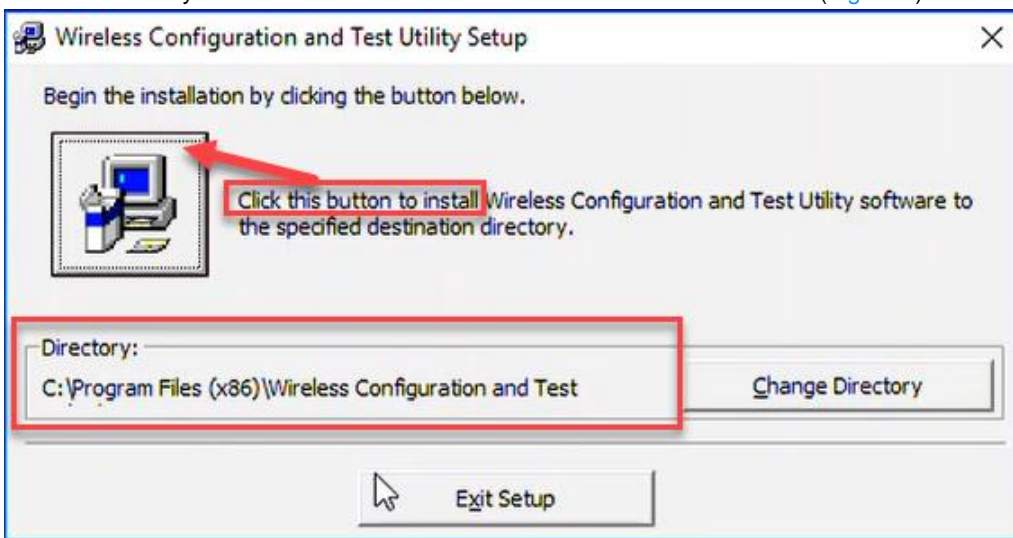

Figure 4: Begin installation
4. Note the directory the files will be installed into and click the button to install. (Figure 4)